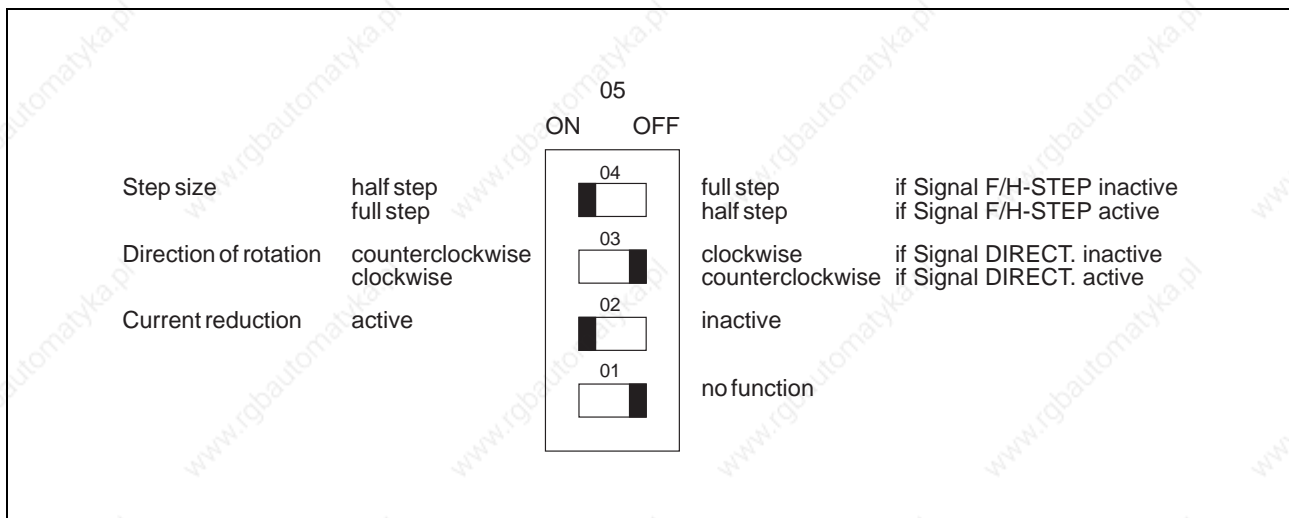

Figure 2-13 Settings of the parameter switch
- *To reduce power dissipation, the automatic current reduction system should be switched on when the system is at rest (see Figure 2-13).*
Use the DIL switch 05 to set desired parameters as illustrated in Figure 2-13. The basic factory setting is indicated.
Dependent upon the position of the Parameter Switch 05 (see figure 2-13):
Dependent on the adjustment of the parameter switch 05/04 (see figure 2-13):